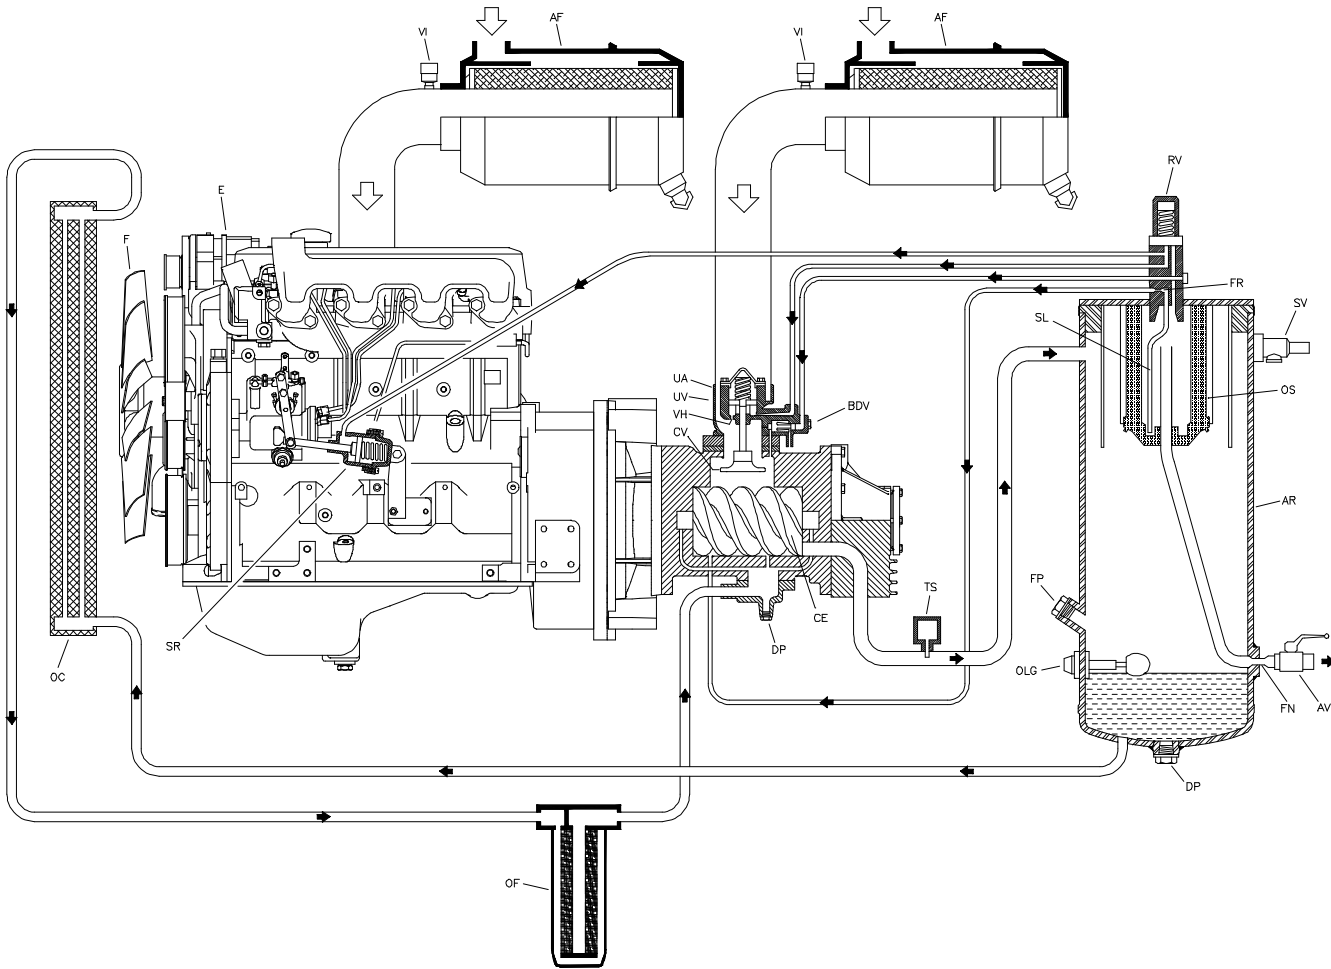

Fig. 2.3 Compressor Regulating System
2.4 Air Flow (See Fig. 2.3)
2.5 Oil system (see Fig. 2.3)
2.6 Continuous regulating system (see Fig. 2.3)